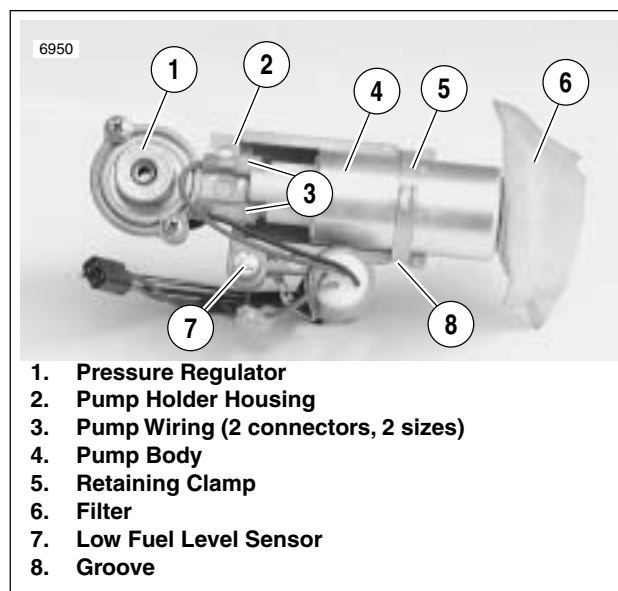

Figure 4-96. Fuel Pump Assembly
2. See Figure 4-96. Remove retaining clamp (5) from pump body (4) using a pair of cutters.
3. Pull pump outlet fitting from pump holder housing (2). Detach electrical wires (3) and discard old pump.
5. Attach both electrical connectors (3) to **new** pump. Note that connectors are two different sizes.
6. Press pump fitting outlet into pump holder housing (2).
7. Place a **new** retaining clamp (5) over pump body. Position clamp inside groove (8) on pump holder housing.